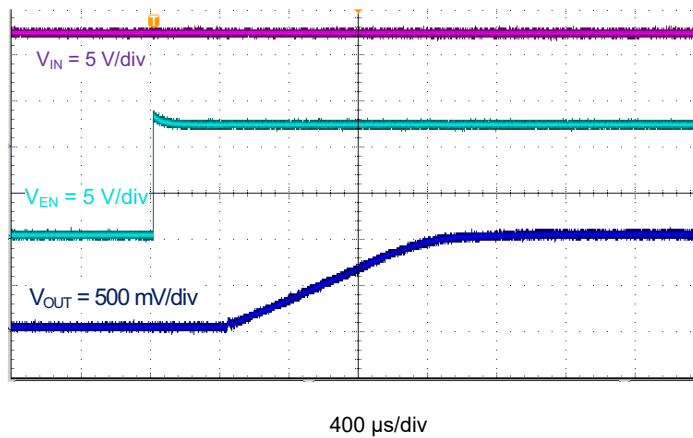

Figure 4-10. TPS564208 Start-Up Relative to EN
The TPS564208EVM-801 start-up waveform relative to enable (EN) is shown in Figure 4-10. Load = 1 Ω resistive.